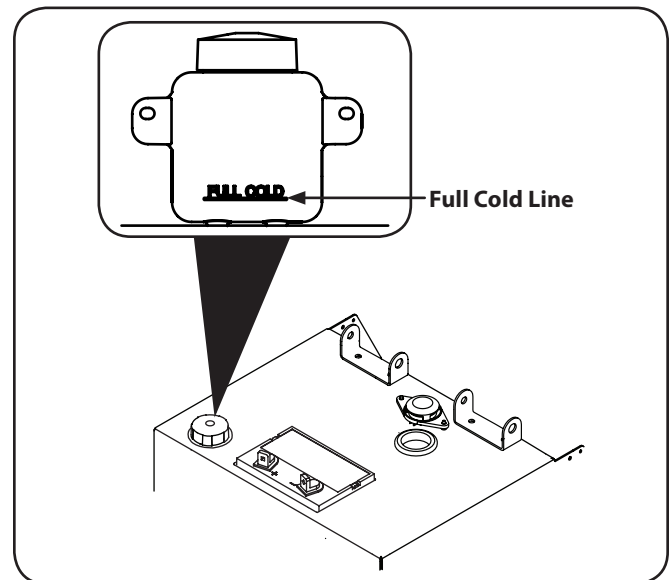

Figure 6-2
1. Pivot the operator's seat forward and clean the reservoir cap and the area around the cap to prevent debris from contaminating the transmission oil. See Figure 6-2.
2. Turn the reservoir cap counterclockwise to remove, then check the oil level in the reservoir. Oil should be visible at the bottom of the cup, but the oil level must NOT be above the "FULL COLD" line. See Figure 6-2. DO NOT FILL THE RESERVOIR.